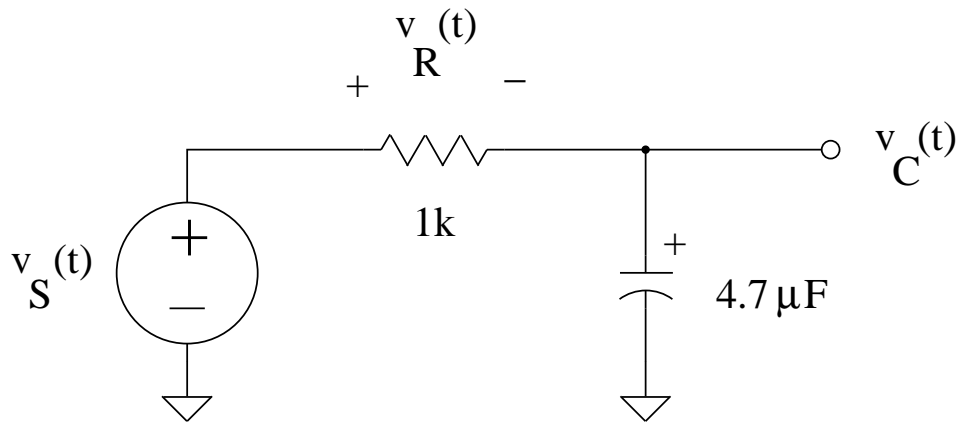

Figure 31: RC circuit
1. Consider the circuit of Figure 31, where the source voltage is a 10V peak-to-peak bipolar square wave with a 20 ms period. Complete the following table where the voltages $v_C(t)$ and $v_R(t)$ are a function of time. Assume that the capacitor has an initial voltage of -3.935V.
1. Build the circuit of Figure 31 on your breadboard. Use a BNC to alligator clip cable to connect the waveform generator (input signal $v_S(t)$ to your circuit (BLK to ground, RED to R). If the capacitor is polarized, be sure that the positive side of the capacitor is toward R. Ask your instructor if in doubt. Electrolytic capacitors can and do explode if a DC voltage is applied in a direction opposite to the capacitor markings.